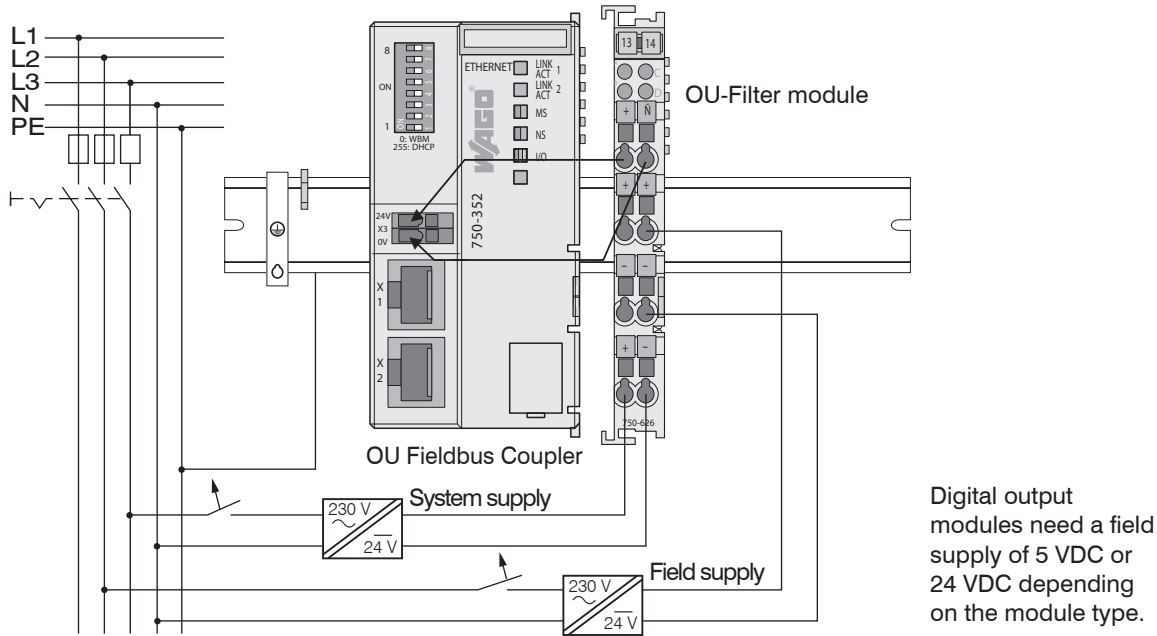

Fig. 39 Separated power units for system and field supply (Ethernet)
- Connect the “System supply (out)” terminals of the OU-Filter module to the “System supply (in)” terminals of the OU-Fieldbus Coupler (0 V and 24 V, see Fig. 39).
- Connect the system supply (in) of the OU-Filter module to the power supply (0 V and 24 V, see Fig. 39).
- Connect the field supply (in) of the OU-Filter module to the power supply (0 V and 5 V/24 V, see Fig. 39).